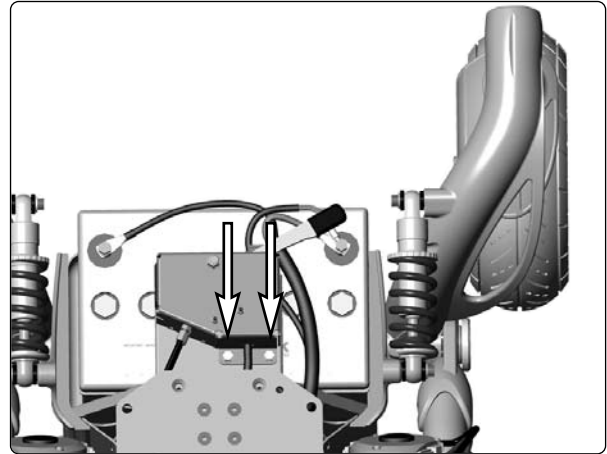

Fig. 31. The wheel lock release mechanism is attached with two screws.
4. Remove the wheel lock release mechanism. It is attached with two screws; see figure 31.